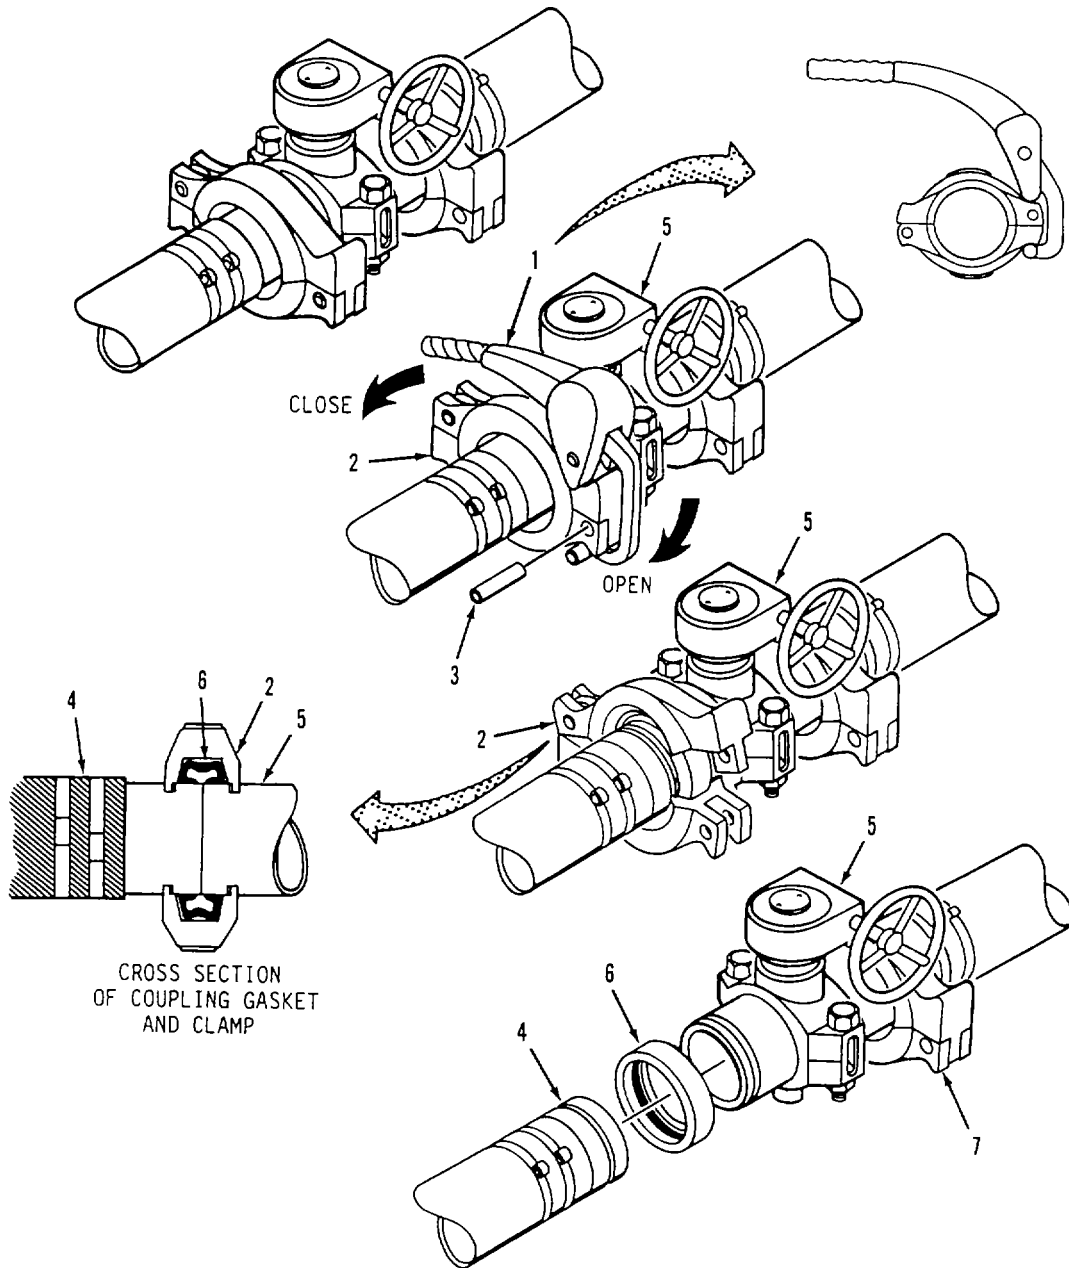

Figure 3-4. Coupling Clamp Component Removal.
a. Removal. Refer to figure 3-4.
- (1) Install assembly tool (1) on coupling clamp (2). Push assembly tool handle to the closed position.
- (2) Using a punch and hammer, drive out locking pin (3) from coupling clamp (2).
- (3) Pull handle of assembly tool (1) away from coupling clamp (2) and remove tool.
- (4) Open and remove coupling clamp (2) from hose (4) and butterfly valve (5).
- (5) Separate hose (4) from butterfly valve (5) and remove coupling gasket (6).
- (6) Repeat steps (1) through (5) for coupling clamp (7).
- (7) Remove defective butterfly valve (5) from water system.